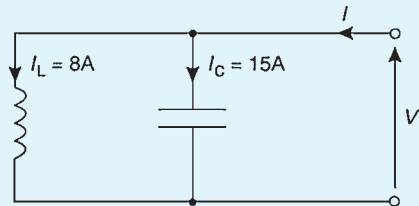

Figure 16.19
14. In the circuit shown in Fig. 16.19, the magnitude of the supply current I is: